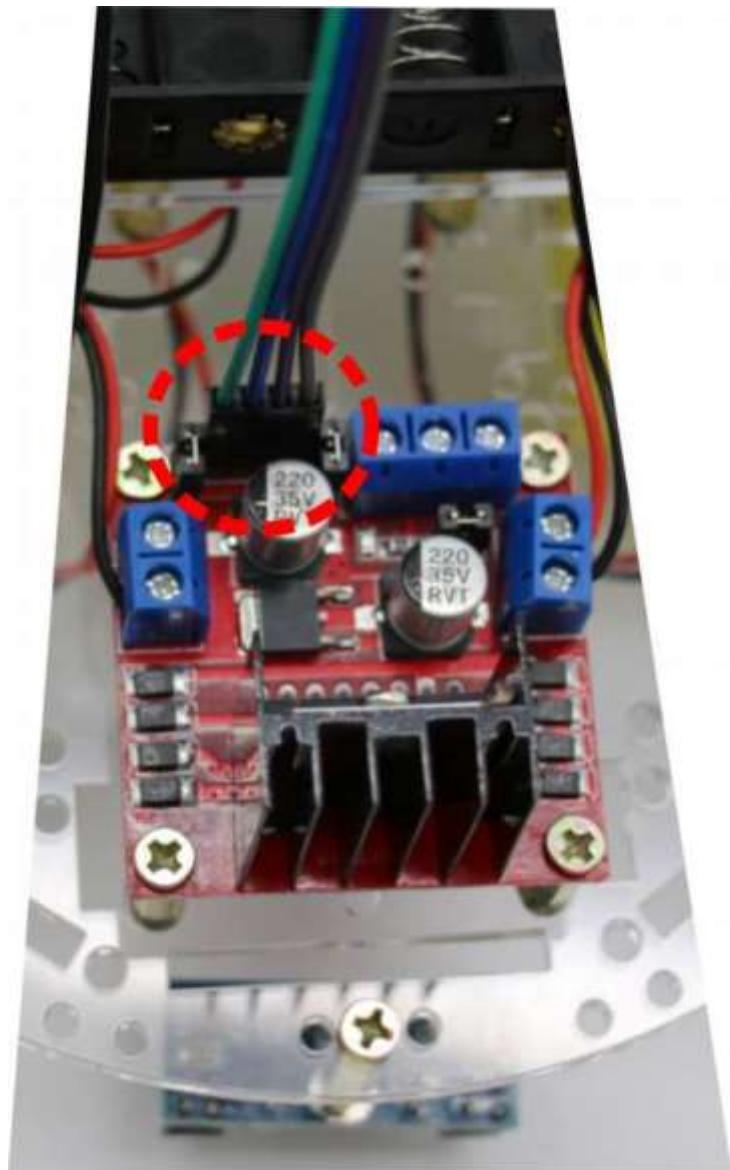

Figure 7 – 3 : View of the other extremity of the connector connected to the motor control module.
Step 7: Connection between motors control module and shield module**Figure 7 – 1 : Locations of contacts on the shield module****Figure 7 - 2 : Connector once connected on the Shield module**